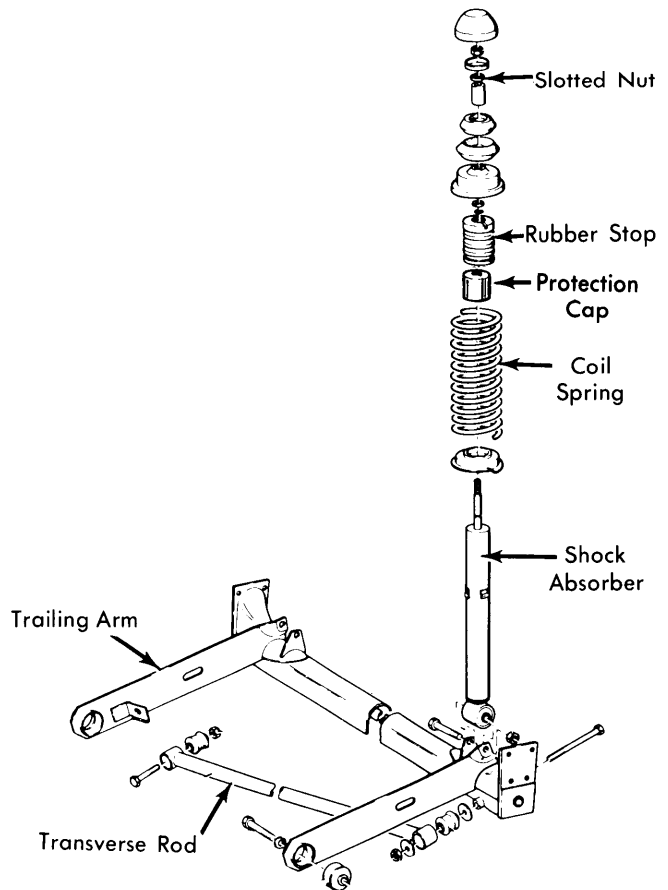

Fig. 2 Exploded View of Audi Fox Sedan Rear Suspension
On Fox Sedan models, coil spring and shock absorber are combined into a single, strut-type assembly. A transverse rod is also used and mounts diagonally in front of axle beam. Fig. 2.
2) On Fox Wagon models, lift axle beam until center of axle is 2.75" (70 mm) higher than center of bushing in trailing arm. Fig. 2. Check distance from axle center to lower edge of fender lip. Distance should be 10.6" (270 mm). Tighten mounting bolts only after axle is located with measurements set as described.